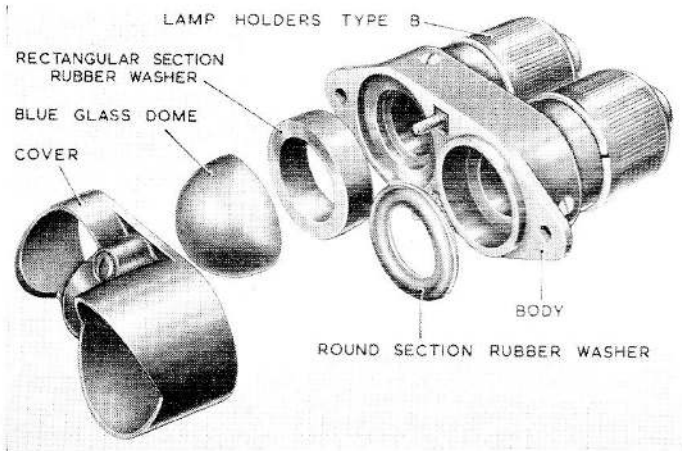

Fig. 2. Lamp, with cover removed
2. The tail lamp, Type C (fig. 2), consists of an aluminium alloy die cast body containing two standard S.B.C. lampholders, Type B. These two lampholders are held in position by 6 B.A. countersunk screws. A rectangular section rubber washer and blue glass dome fit over the formation filament lamp, both being fixed to the body by bostic adhesive. A circular washer fits over the neck of the navigation filament lamp and prevents ingress of moisture. An aluminium alloy die cast cover fits over the filament lamps and glass and retains these items in position, the cover being secured by two counterbored captive screws in the cover.